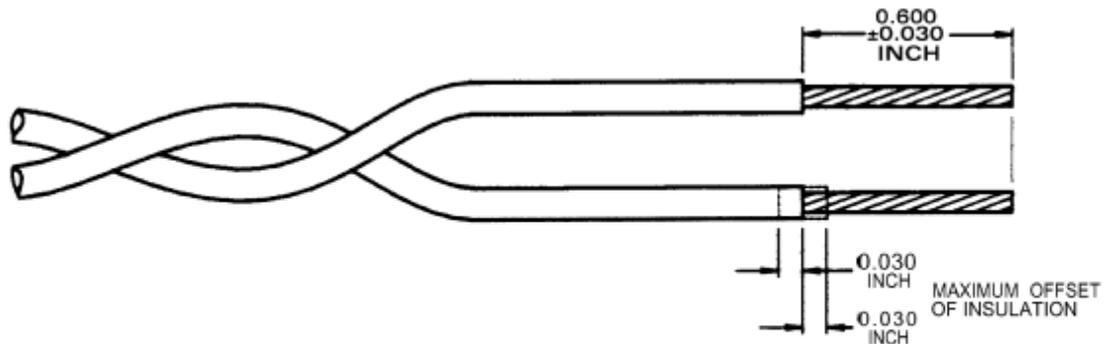

Figure 5-2. Cable Stripping Dimensions
2.z Strip the cable to the dimensions shown in Figure 5-2.